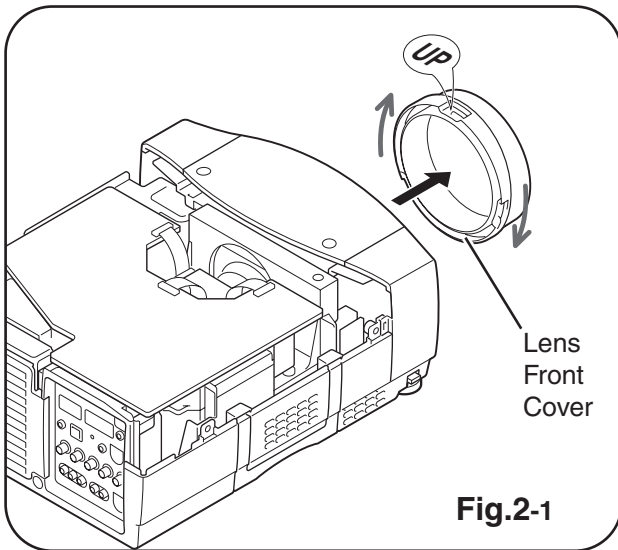

Fig.2-1
- 1 Turn the Lens Front Cover counter-clockwise and to take it off by pulling forward as shown in Fig.2-1.